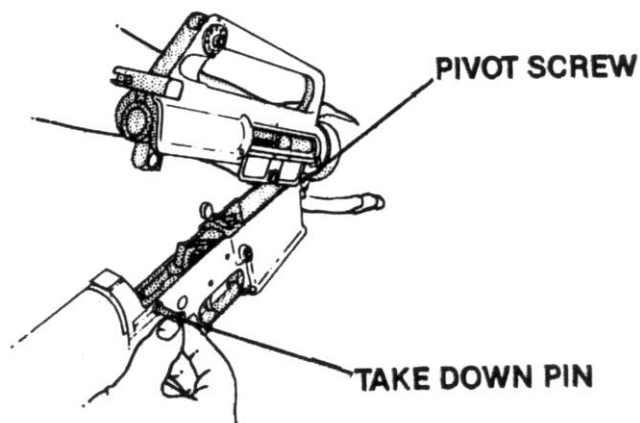

Figure 4
5. Pivot lower receiver down and away from upper receiver. See Figure 4.